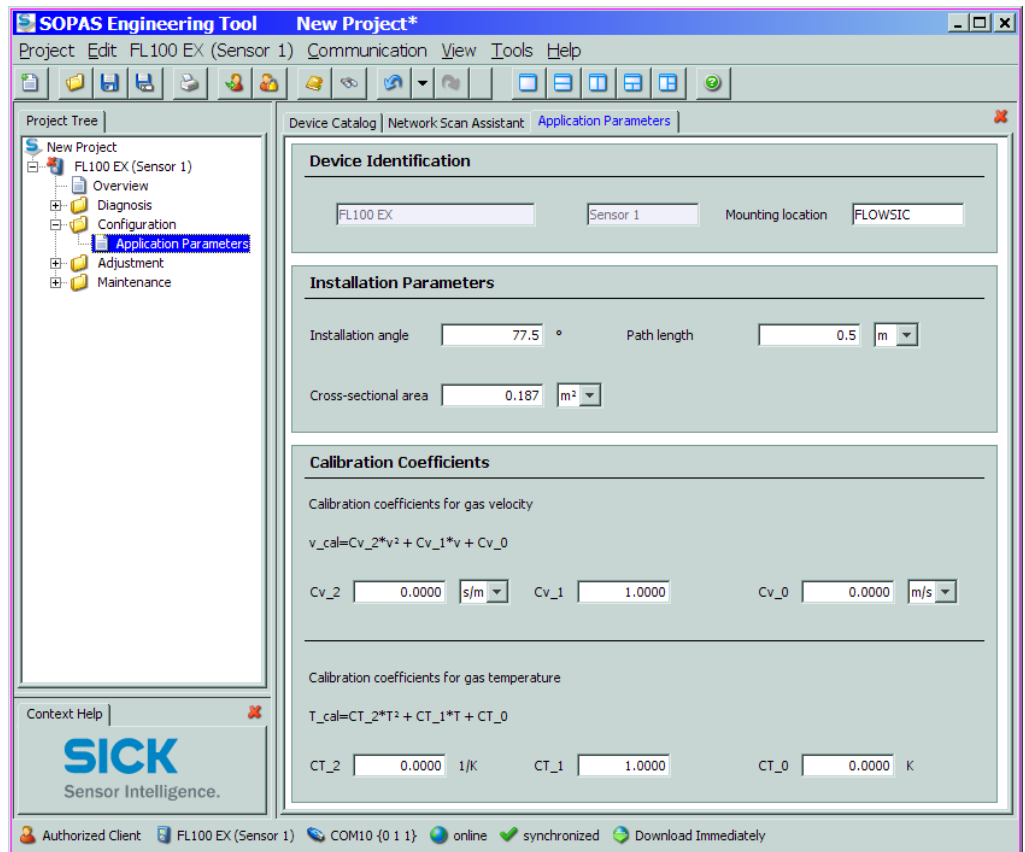
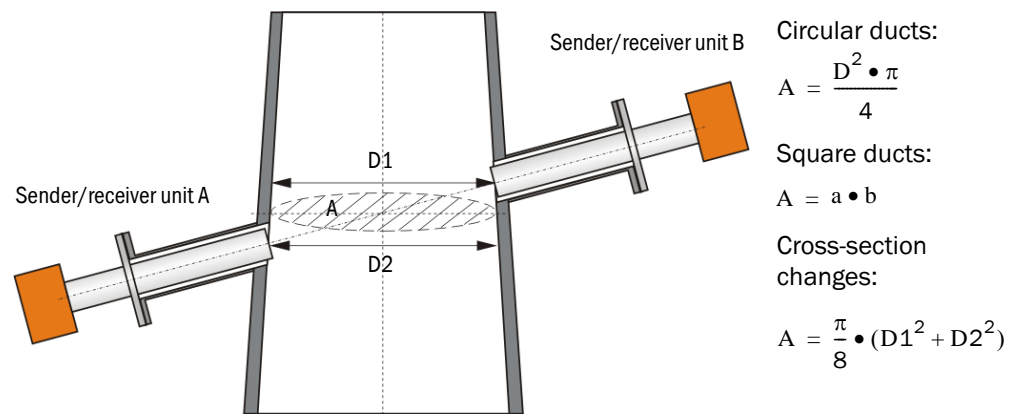

Fig. 4.11: "Application parameters" subpage (example for settings)
Fig. 4.12: Basic parameters
- ▶ Select the "Configuration / Application Parameter" directory (see Fig. 4.11) and enter the values determined for path length and angle determined in Section 3.2.1 as well as the cross-sectional area according to Fig. 4.12.
Installation angle	Angle between measuring axis and main gas flow direction (path angle α in Fig. 4.12)
Active measuring path	Distance transducer - transducer (path length L in Fig. 4.12)
Cross-sectional area (required to calculate the volume flow)	Area between inner pipe walls in the measurement setup area vertical to flow direction A (A in Fig. 4.12) Enter the average value of the areas for sender/receiver units A and B after cross-section changes.